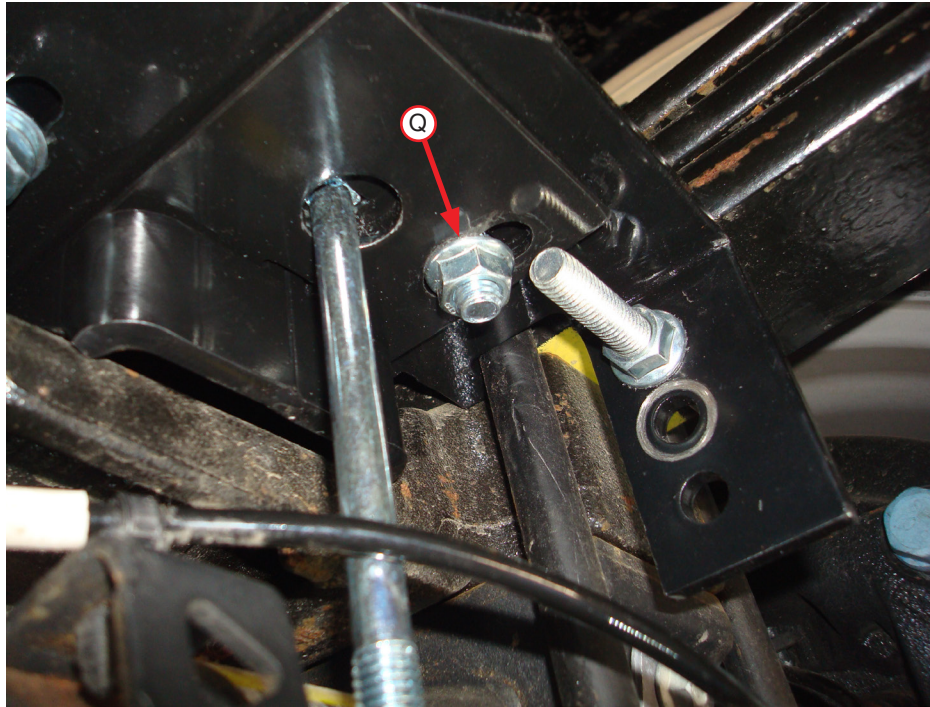

Fig. 21
7. Torque the nut (Q) to 32 lb.-ft. (43Nm) on both sides (Fig. 21).